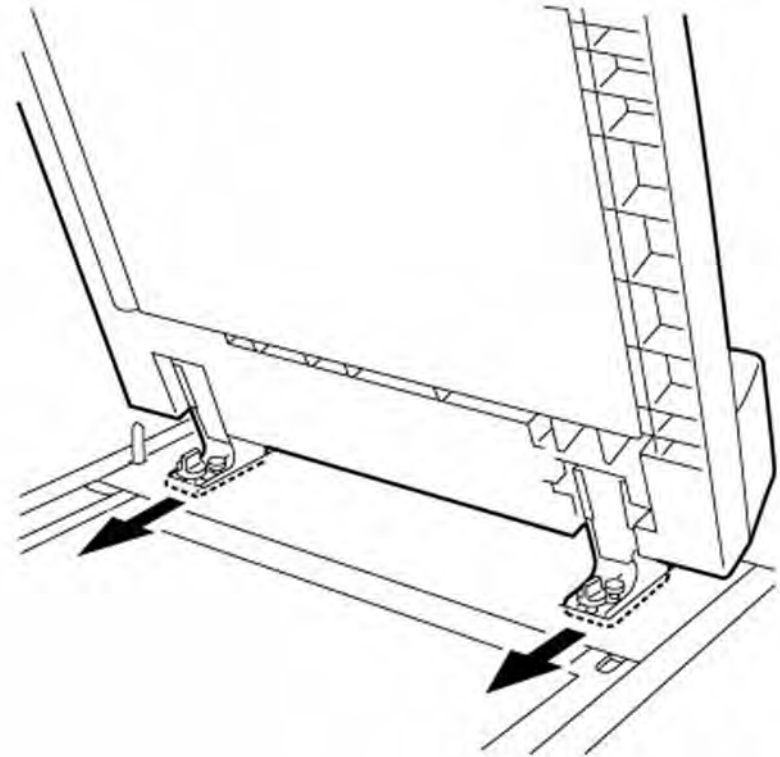

Figure 3 Installing the DADF
1. When installing the DADF, push the DADF to the front, then secure (Figure 3)